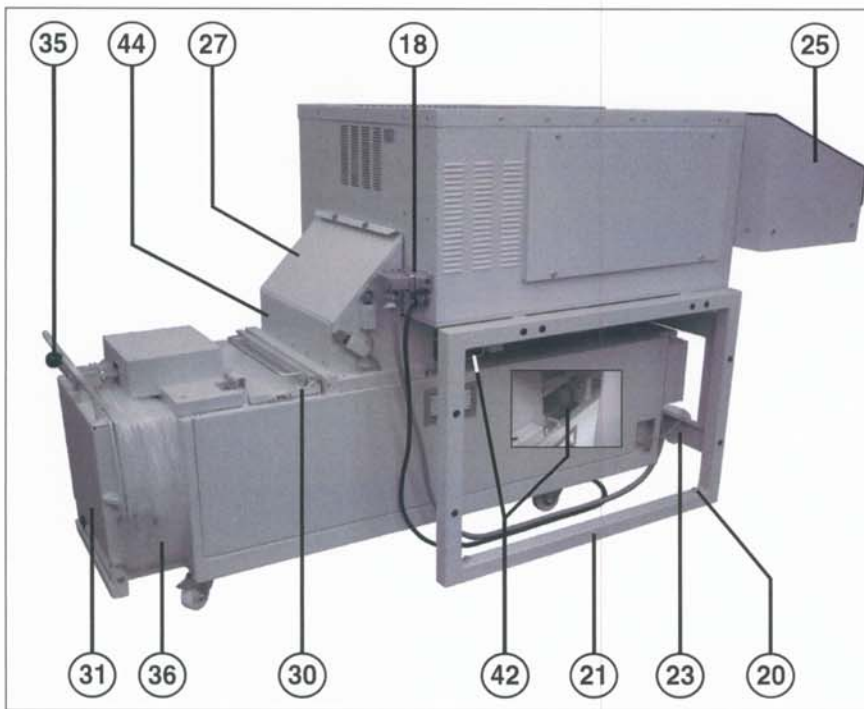

fig. 2
- 18 = electrical outlet (fig. 2)
- 20 = leveling screw (fig. 2)